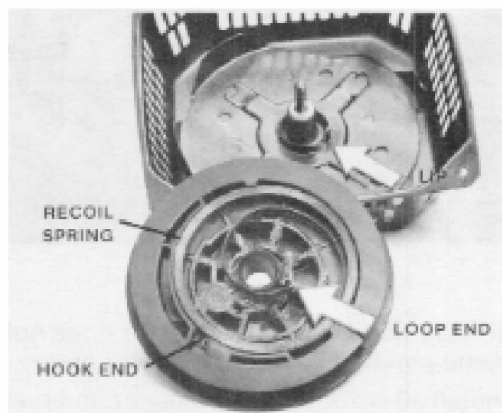

Figure 3-37
9. Turn the pulley over and examine the condition of the recoil spring. It should be retained in the pulley as seen in Fig. 3-37. On reassembly, the loop end of the spring must be caught on the lip of the hub in the recoil assembly.
5. The spring should be installed in the pulley as shown in Fig. 3-37.
6. If the spring has expanded outside the pulley, it can be reinstalled by first placing the hook end into the pulley. See Fig. 3-37.